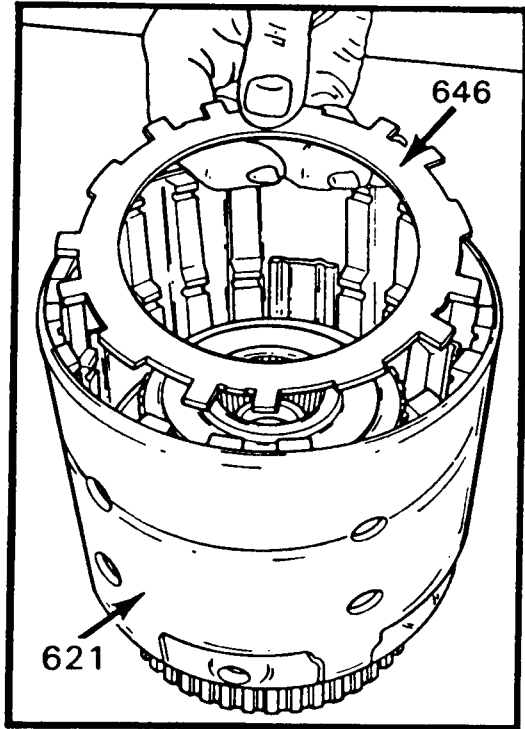

Figure 101
1. Install the forward clutch APPLY plate as shown in Figure 101. Align the teeth on the apply plate so that the wider tabs are on top of the forward clutch piston legs.